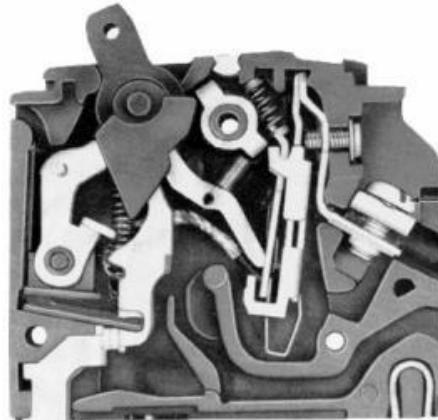

Figure 5.16: Molded-Base Circuit Breaker
5.50 The molded case of a circuit breaker provides the physical means of positioning the breaker components, and it protects the working parts from damage and contamination. The molded case also protects people from contact with energized components in the breaker. Figure 5.16 shows the internal view of a molded-case circuit breaker.